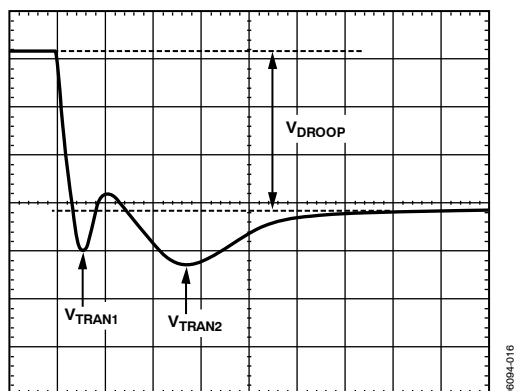

Figure 18. Transient Setting Waveform
18. With the dynamic load still set at the maximum step size, expand the scope time scale to either  $2 \mu\text{s}/\text{div}$  or  $5 \mu\text{s}/\text{div}$ . The waveform can have two overshoots and one minor undershoot (see Figure 18). Here,  $V_{DROOP}$  is the final desired value.